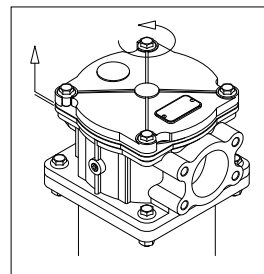

fig. 3
- (Fig. 3) Unfasten the cover screws by 2-3 turns, the cover is pushed outwards by a spring